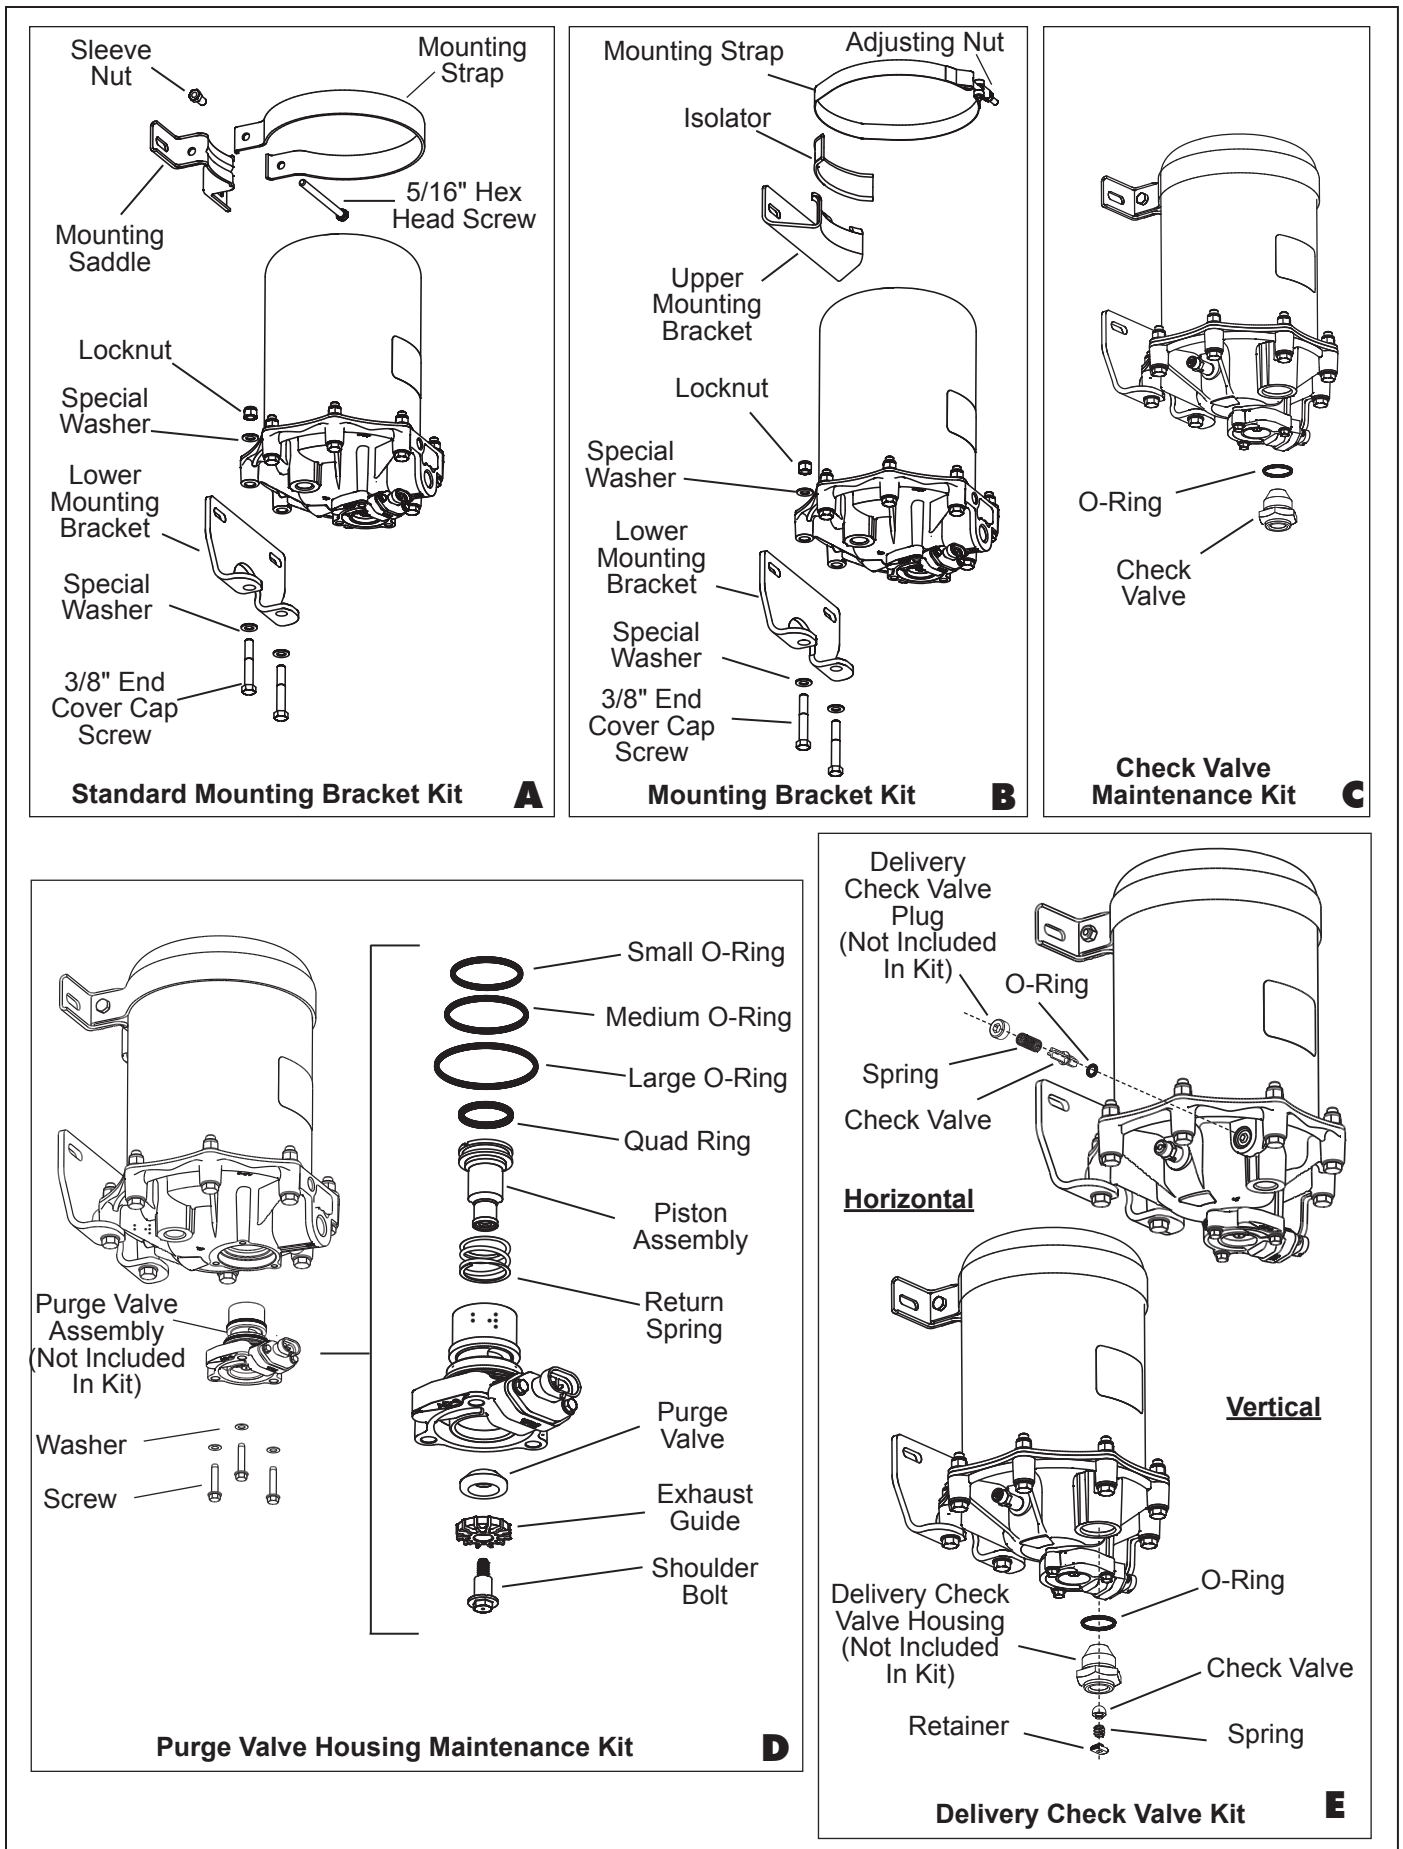

Figure 7 – Maintenance Kit Contents (Illustrations A Through E)
5. Loosen the 5/16" hex cap screw and sleeve nut securing the upper mounting strap to the upper mounting bracket. *See Figure 7, illustration A.*
Some air dryers may contain a one piece upper mounting strap as shown in Figure 7, illustration B. If this type of strap is present, loosen the adjustment locknut and remove the strap and isolator from the upper bracket.
6. Mark and remove the two 3/8" end cover cap screws, locknuts, and four special washers that secure the lower mounting bracket to the end cover. Also be sure to mark these two holes of the end cover. (These bolts are longer than the other 6 bolts.) Retain the mounting hardware. *See Figure 7, illustrations A & B.*
The following disassembly procedure is presented for reference purposes and presupposes that a major rebuild of the Bendix® AD-9® or AD-9® PG (with PuraGuard® coalescing filter) air dryer is being undertaken. Several replacement parts and maintenance kits are available which do not require full disassembly. The instructions provided with these parts and kits should be followed in lieu of the instructions presented here. Refer to Figures 7, 8, and 9 during disassembly.
The current style AD-9 air dryer end cover has a horizontal delivery check valve while earlier styles contained a vertical design. Identify the style of AD-9 air dryer end cover and proceed to the appropriate step for removal. See Figure 7, illustration E.
Removal of the piston from the purge valve housing assembly requires a tool to hold the head of the purge piston while unscrewing the purge valve shoulder bolt. Remove the piston from the purge valve housing assembly using a twelve point 1/4" socket to hold the head of the purge valve shoulder bolt. See *Figure 7, illustration D*.
The following assembly procedure is presented for reference purposes and presupposes that a major rebuild of the Bendix® AD-9® or AD-9® PG (with PuraGuard® coalescing filter) air dryer is being undertaken. Several replacement parts and maintenance kits are available which do not require full disassembly. The instructions provided with these parts and kits should be followed in lieu of the instructions presented here. Refer to Figures 7, 8, and 9 during assembly.
1. Prior to assembly, coat all o-rings, o-ring grooves, and bores with a generous amount of the lubricant included in the maintenance kit. See Figure 7, illustration D.
The current style AD-9 air dryer end cover has a horizontal delivery check valve while earlier styles contained a vertical design. Identify the style of AD-9 air dryer end cover and proceed to the appropriate step for installation. See Figure 7, illustration E.
2. See Figure 7, illustrations A and B, to determine the mounting bracket type.